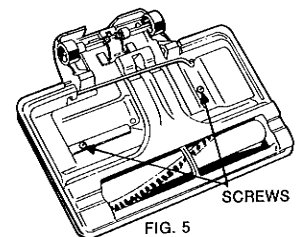

FIG. 5
2. Remove top cover after removing the two screws as shown in Fig. 5.